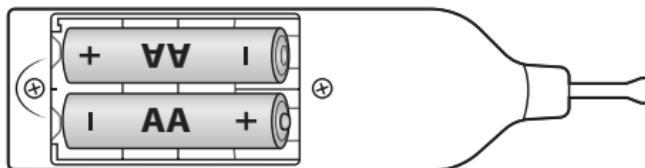

fig. 1
- ◆ Open the battery compartment ④ on the back of the wax melter ①.
- ◆ Insert the batteries into the wax melter ① as indicated in the battery compartment ④ (see fig. 1).
- ◆ Close the battery compartment ④.